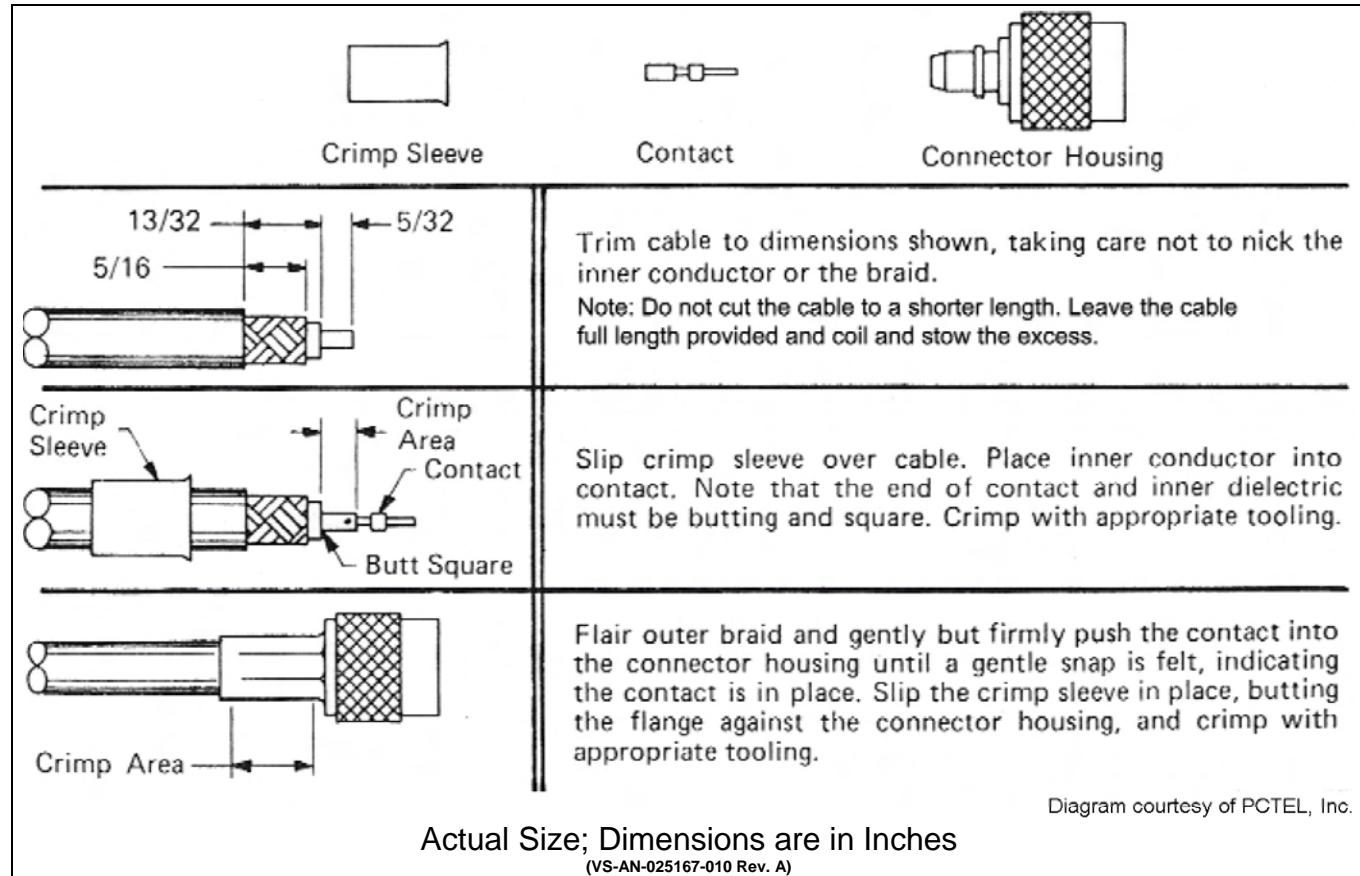

Figure 7-1: Crimping Instructions for TNC RF Connector
4. Using an appropriate crimp tool, crimp the supplied TNC RF connector to the end of the antenna cable. For crimping instructions, see Figure 7-1 or the instructions supplied with antenna.